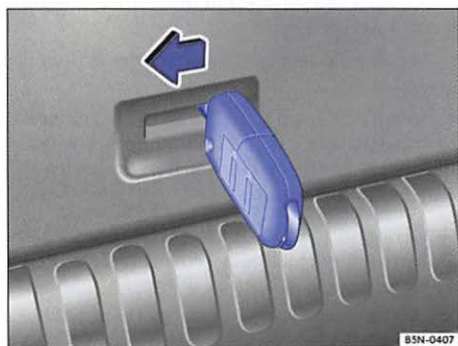

Fig. 171 View from luggage compartment: Emergency unlocking rear hatch.
- Insert the key into the slot on the rear hatch ⇒ fig. 171 and press the release lever in the direction of the arrow to unlock the rear hatch. ◀